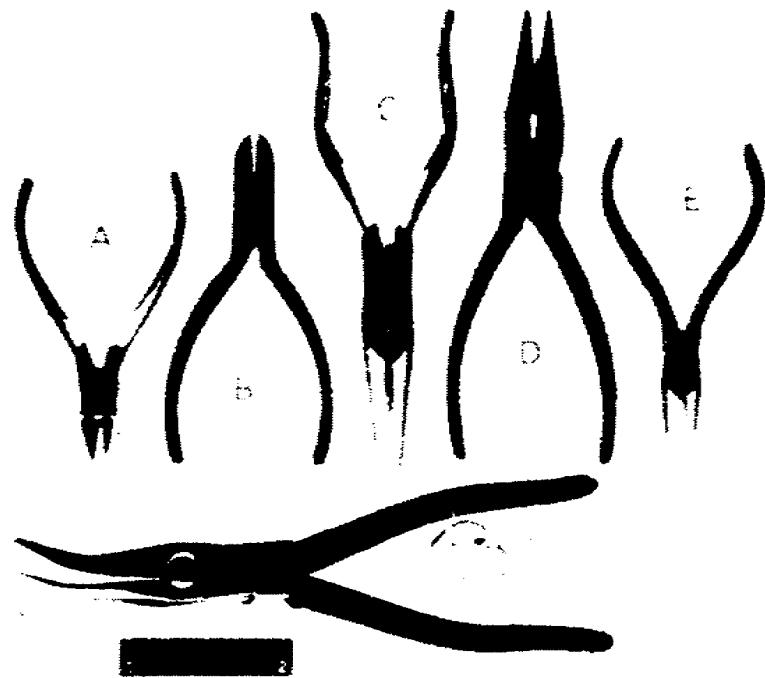
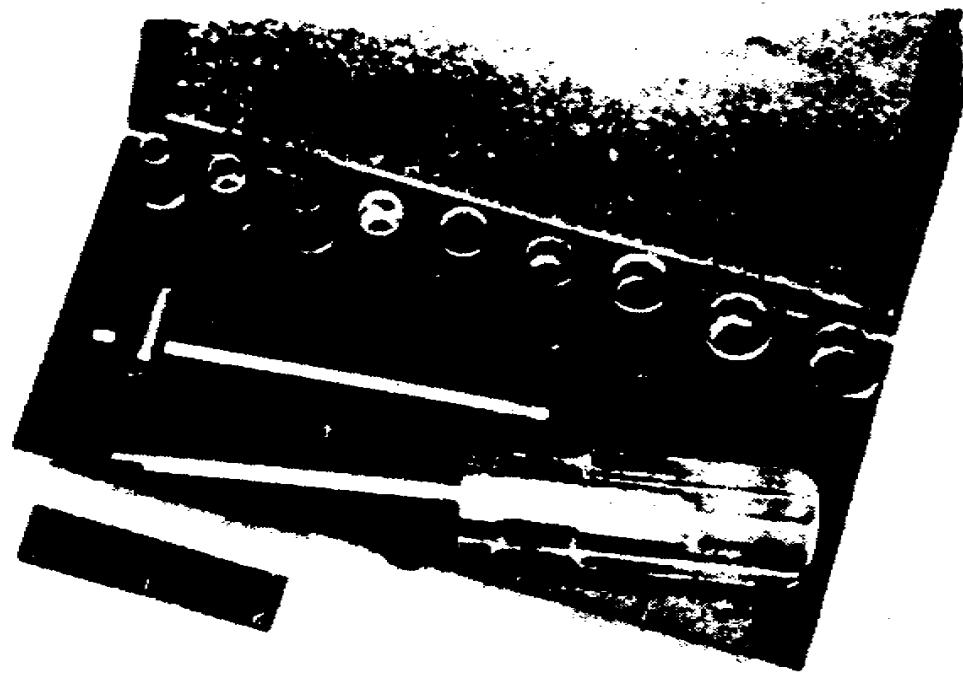

Figure 4. Pliers in a TK-105/G.
Figure 7. Wrenches: kit of sockets and handles.
(4) Pliers in a TK-105/G. Figure 4 shows the various pliers that come in a Tool Kit TK-105/G. Items A and B are diagonal cutting pliers. Used for cutting small gauge wires, these are commonly referred to as "diagonal cutters," "diagonals," or "dikes." Diagonal cutting pliers are made in several sizes for electronic work, and range in sizes from the 8-inch length to the 4-inch length. Items C and D are round needle-nose pliers with wire cutters. Item E is a 4-inch round chain-nose or short-nose pliers without cutter. Item F is a curved, round needle-nose pliers with wire cutter; the one illustrated has plastic-coated handles. Item G is a small, slip-joint pliers commonly referred to as ignition pliers; this tool came in the box of sockets shown in figure 7.
- (2) Socket wrenches (fig. 7). A socket wrench is made up basically of two parts: a socket and a handle. The TK-105/G has a metal box containing a set of sockets and handles. The sizes of the sockets in this kit are suitable for radio mechanics and electronic equipment repairmen working in the field. However, in production-line shops, such as those that do general support maintenance and depot maintenance, the maintenance man who has to do assembly or disassembly hour after hour may be equipped with ratchet handles, speed handles, extensions, flex-joints, and other attachments which take sockets essentially similar to those shown in figure 7.